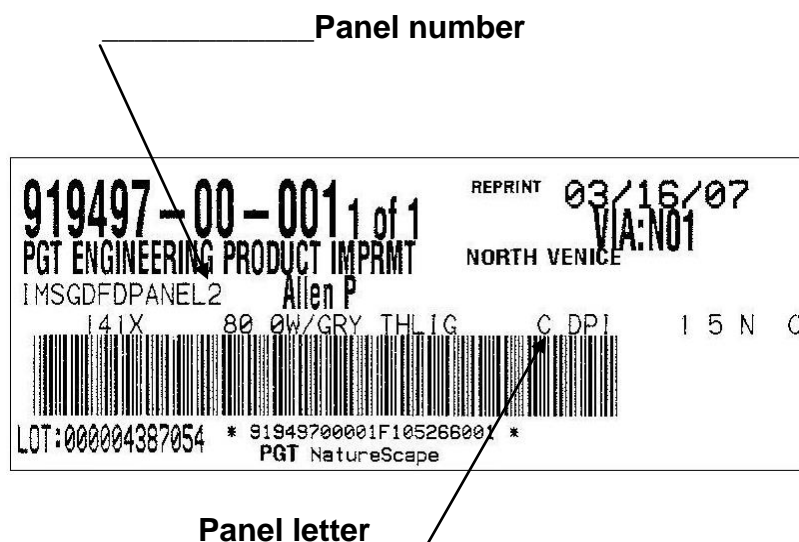

Figure 16
- 1) Shipping labels on panels will have the panel # and letter name on them; they will be installed in order from left to right. Please see the configuration page for the proper track the panel goes onto. (See Figure 16)